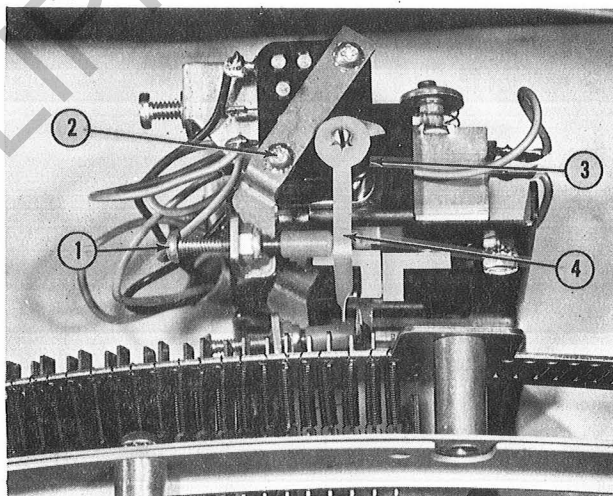

Figure 1. Readout Switch Actuator Pretravel Adjustment
3. With selected record in play position, turn SIDE 2 PRETRAVEL ADJUSTMENT SCREW clockwise until SIDE 2 RELAY activates (listen for audible click of relay). Refer to Figure 1.
6. With selected record in play position, turn SIDE 1 PRETRAVEL ADJUSTMENT SCREW clockwise until SIDE 1 RELAY activates (listen for audible click of relay). Refer to Figure 1.